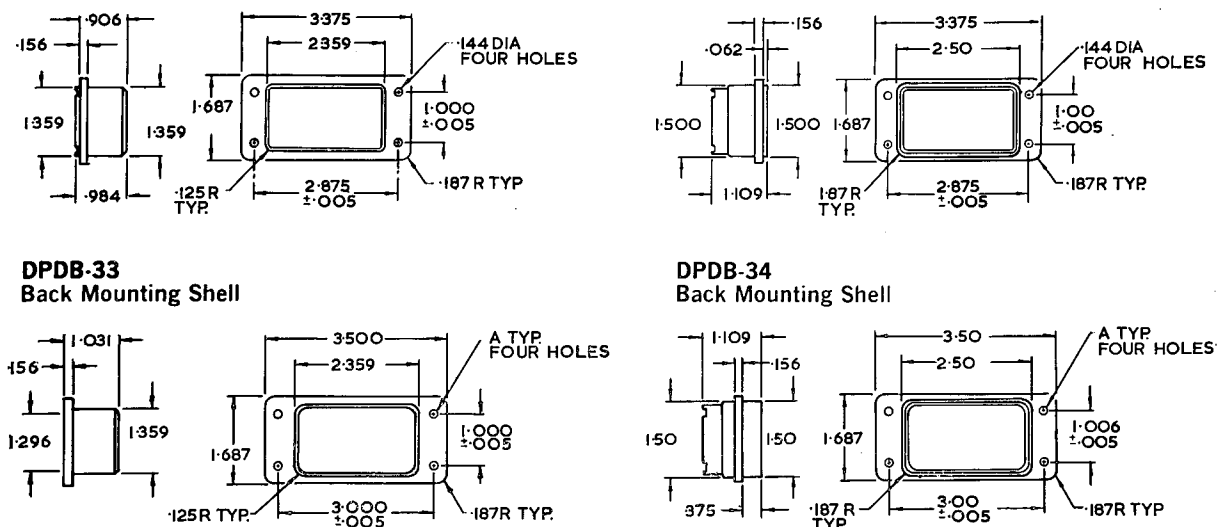

Fig. 3. Shell dimensions
6. Four styles of shell are available, shells, Types DPD33 and DPDB33 are male shells, and shells DPD34 and DPDB34 are female shells. Shells, Types DPD33 and DPD34 are shown in fig. 1 and the dimensions of all shells are shown in fig. 3.